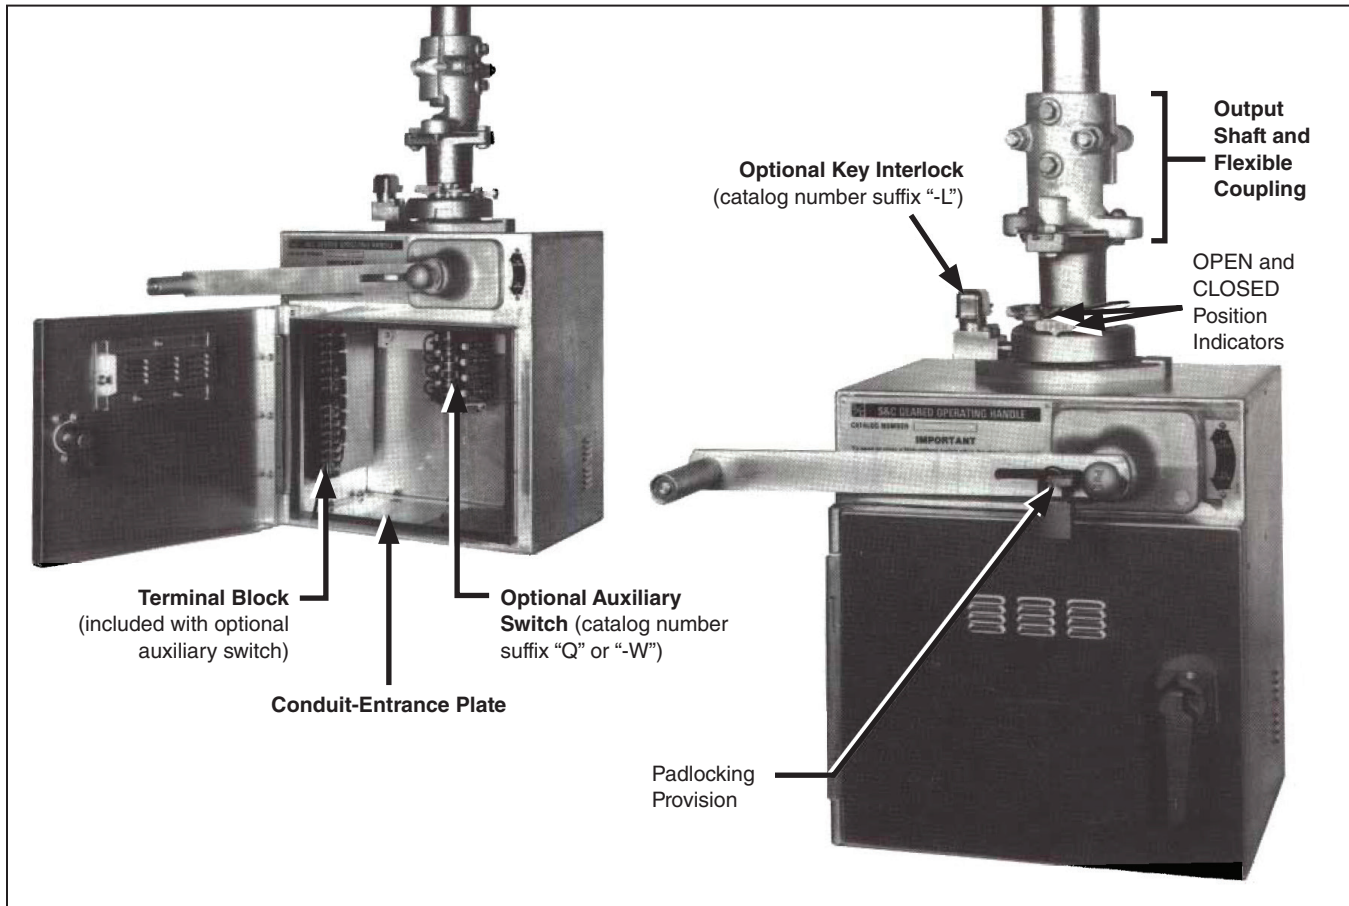

Figure 4. Manual Geared Operating Handle.
STEP 9. Check the cranking-direction label located on the front of the manual geared operating handle. If the "To Open" and "To Close" cranking directions indicated are incorrect, remove the screws holding the cranking direction label. An alternate-reading label is attached behind it and should be used instead. See Figure 4 on page 12.